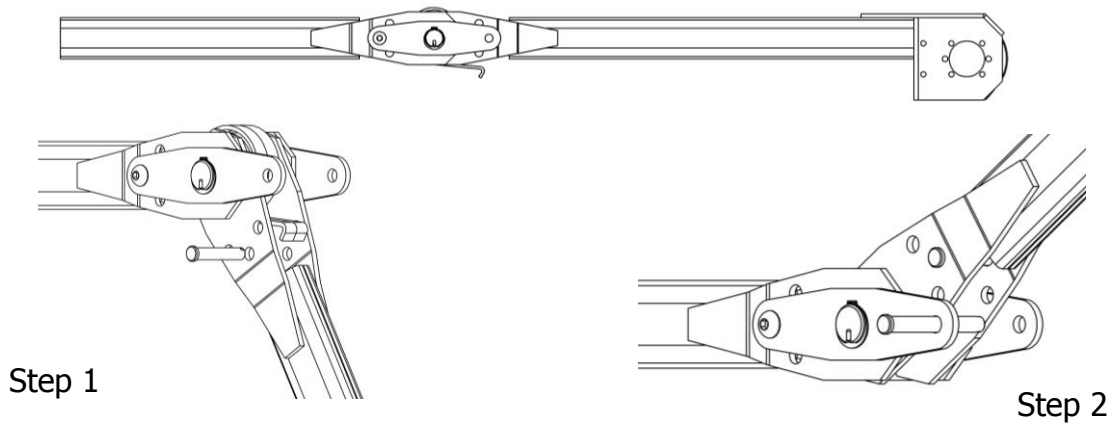
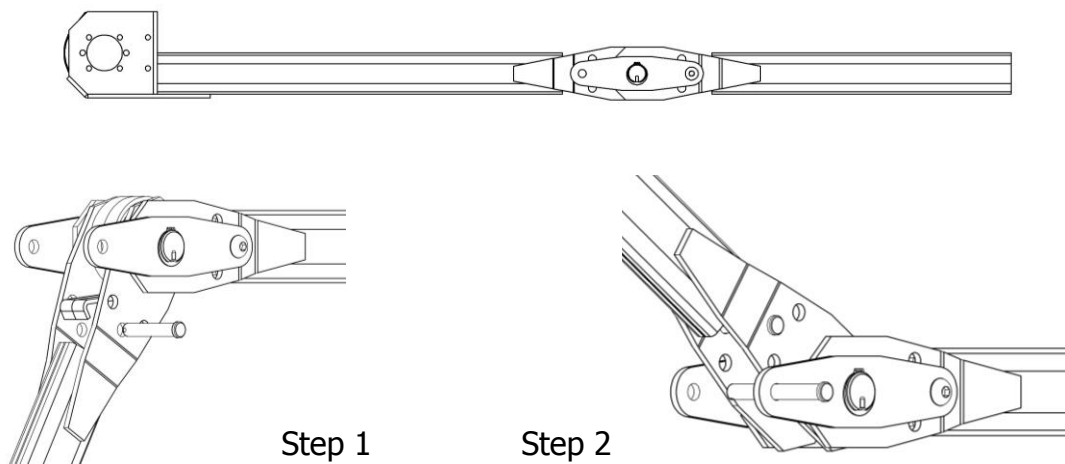

Figure 4
Figure 5
1. Locate the knuckle arm assembly. Refer to figure 4 for Passenger stowing and Figure 5 for driver stowing
2. Locate the bag with 4 clevis pins in it (2 long, 2 short). Rotate the upper section until you can get the short pin thru under the springs. Refer to step 1 in figure 4 or 5 depending on your system. Once in place install cotter pin.
3. Rotate the upper arm against the spring pressure until you can get the long clevis pin thru the holes under the upper pivot tube. Refer to step 2 in figure 4 or 5 depending on your system. Once in place install cotter pin.